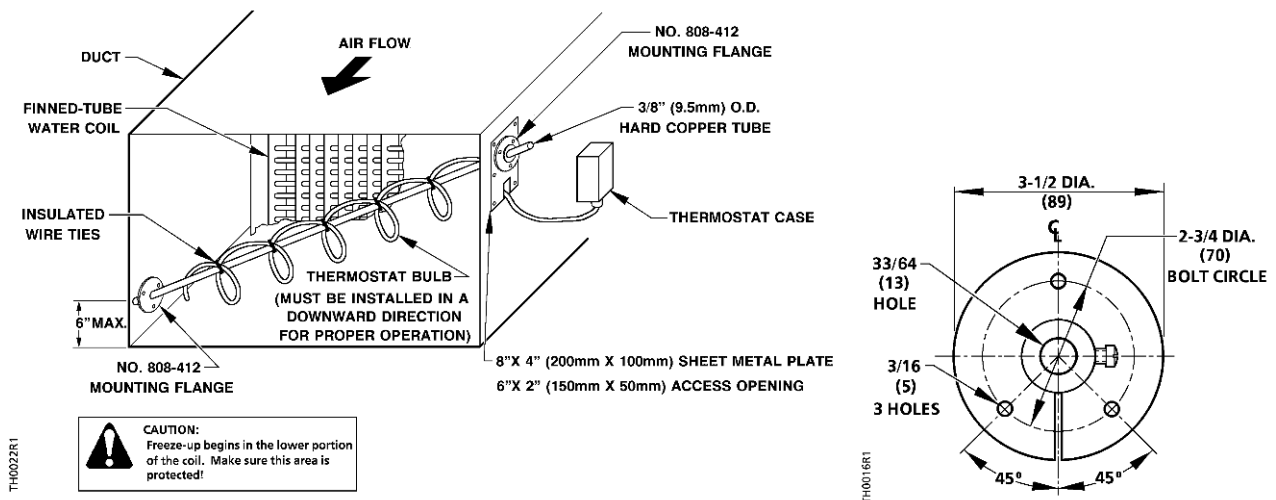

Figure 7. Bulb Mounting for Limited Access Ducts with Mounting Flange.
Limited Access Ducts (Figure 7)
2. Cut a 1-inch diameter hole in the duct. Use the flange to determine the screw hole positions and drill three holes. See the mounting flange inset in *Figure 7*.